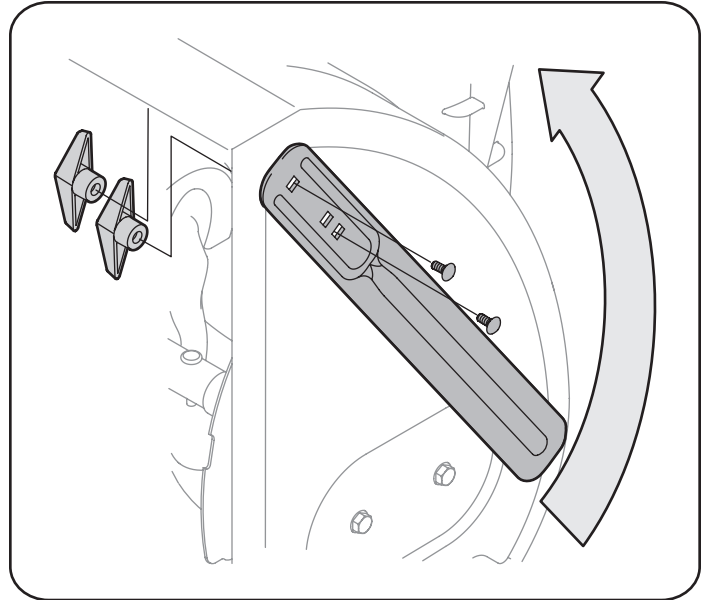

Figure 12
2. Turn the drift cutters around and position them as shown in Figure 12 to the outside of the auger housing.